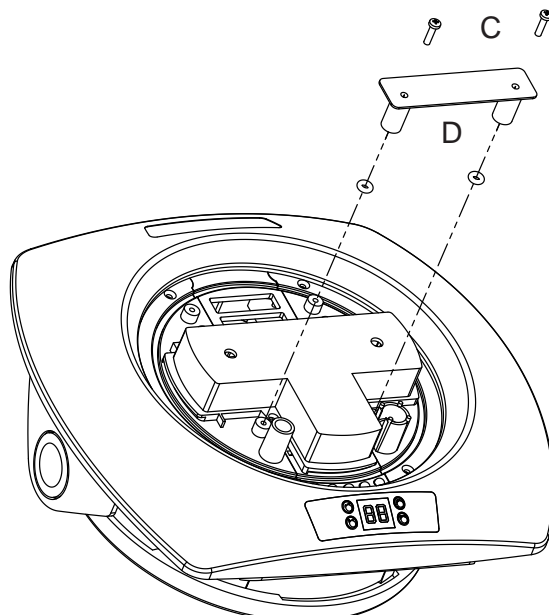

Figure 8-2: Remove filter retaining bracket
- **Where the filter is secured with a retaining bracket:** Remove screws (C) with a Philips head screwdriver and lift out the filter retaining bracket (D) (Figure 8-2).